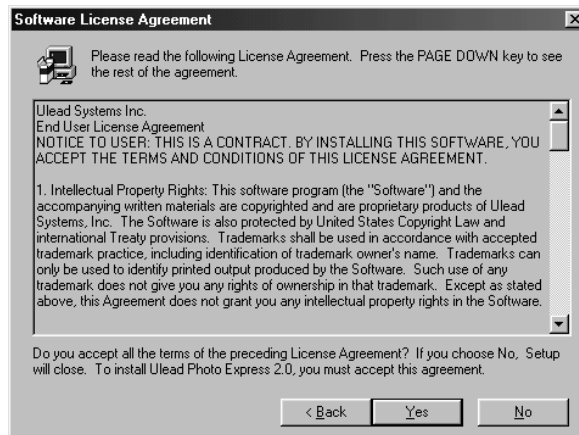

Figure 17: License Agreement
6. Click on 'Next'. The License Agreement window will pop up (Figure 17).
7. Click on 'Yes' to accept the License Agreement (**Figure 17**) and continue with the installation.